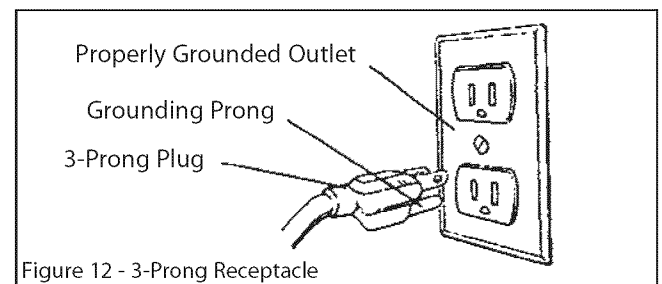

Figure 12 - 3-Prong Receptacle
- Place the wrench on the hex bolt and adjust until the table is square to the saw blade (see Figure 12).
- Grounding plug should be plugged directly into a properly installed and grounded 3- prong grounding-type receptacle, as shown (Figure 12).